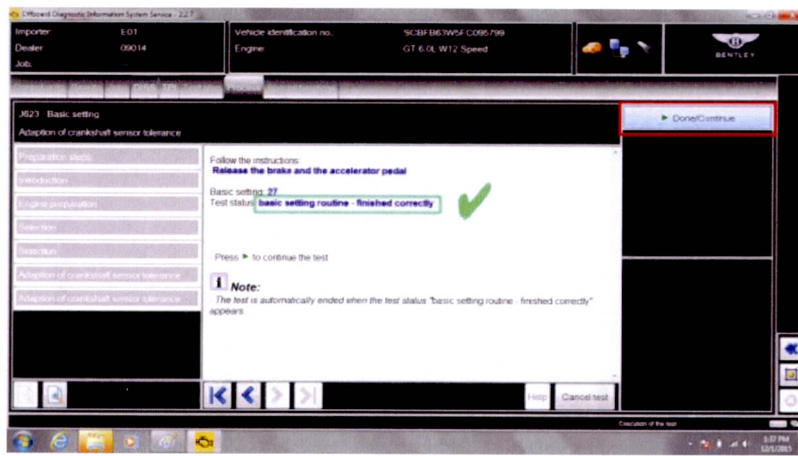

Figure 21
10. When test is complete screen status will show *basic setting routine – finished correctly*, as instructed release both brake and accelerator pedal and select *Continue* (see Figure 21)